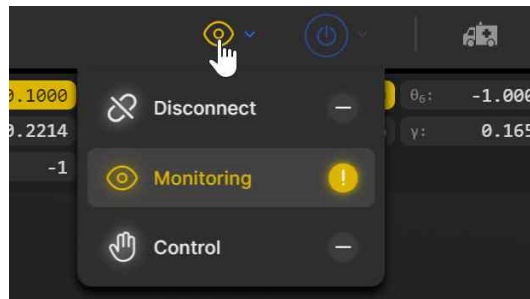

Figure 15: Connection state button
1. Click on the connection state button on the top right of the MecaPortal and select  "Control" (see Figure 15).